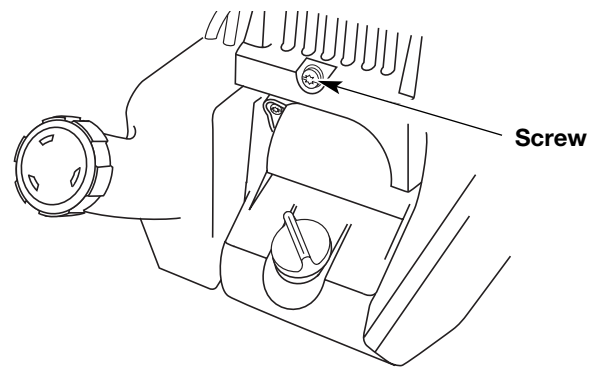

Fig. 26
2. Remove the screw behind the engine cover (Fig. 26).